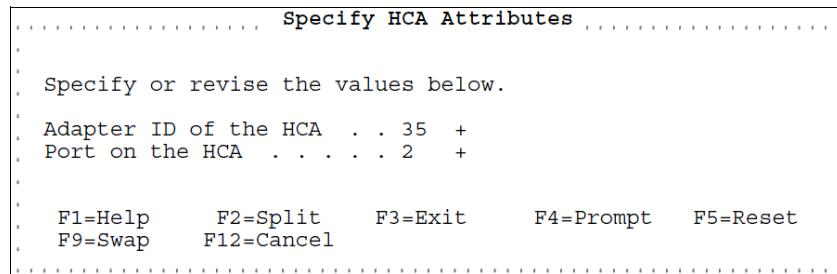

Figure 9-16 Specify AID and port for CL5 on z14
5. In the Specify HCA Attributes panel (Figure 9-16), type, for example, AID 35 port 2, and press **Enter**.